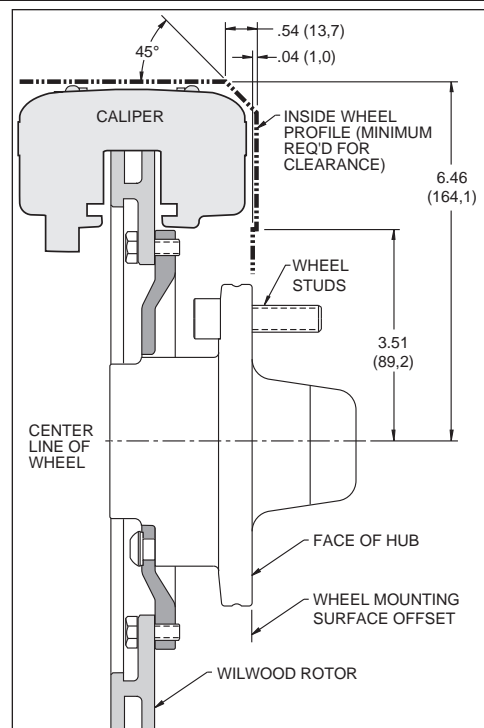

Figure 3. Wheel Clearance Diagram
- Review the wheel clearance diagram (figure 3, page 4) to verify that there is adequate clearance with the wheels you will be using with the installation.